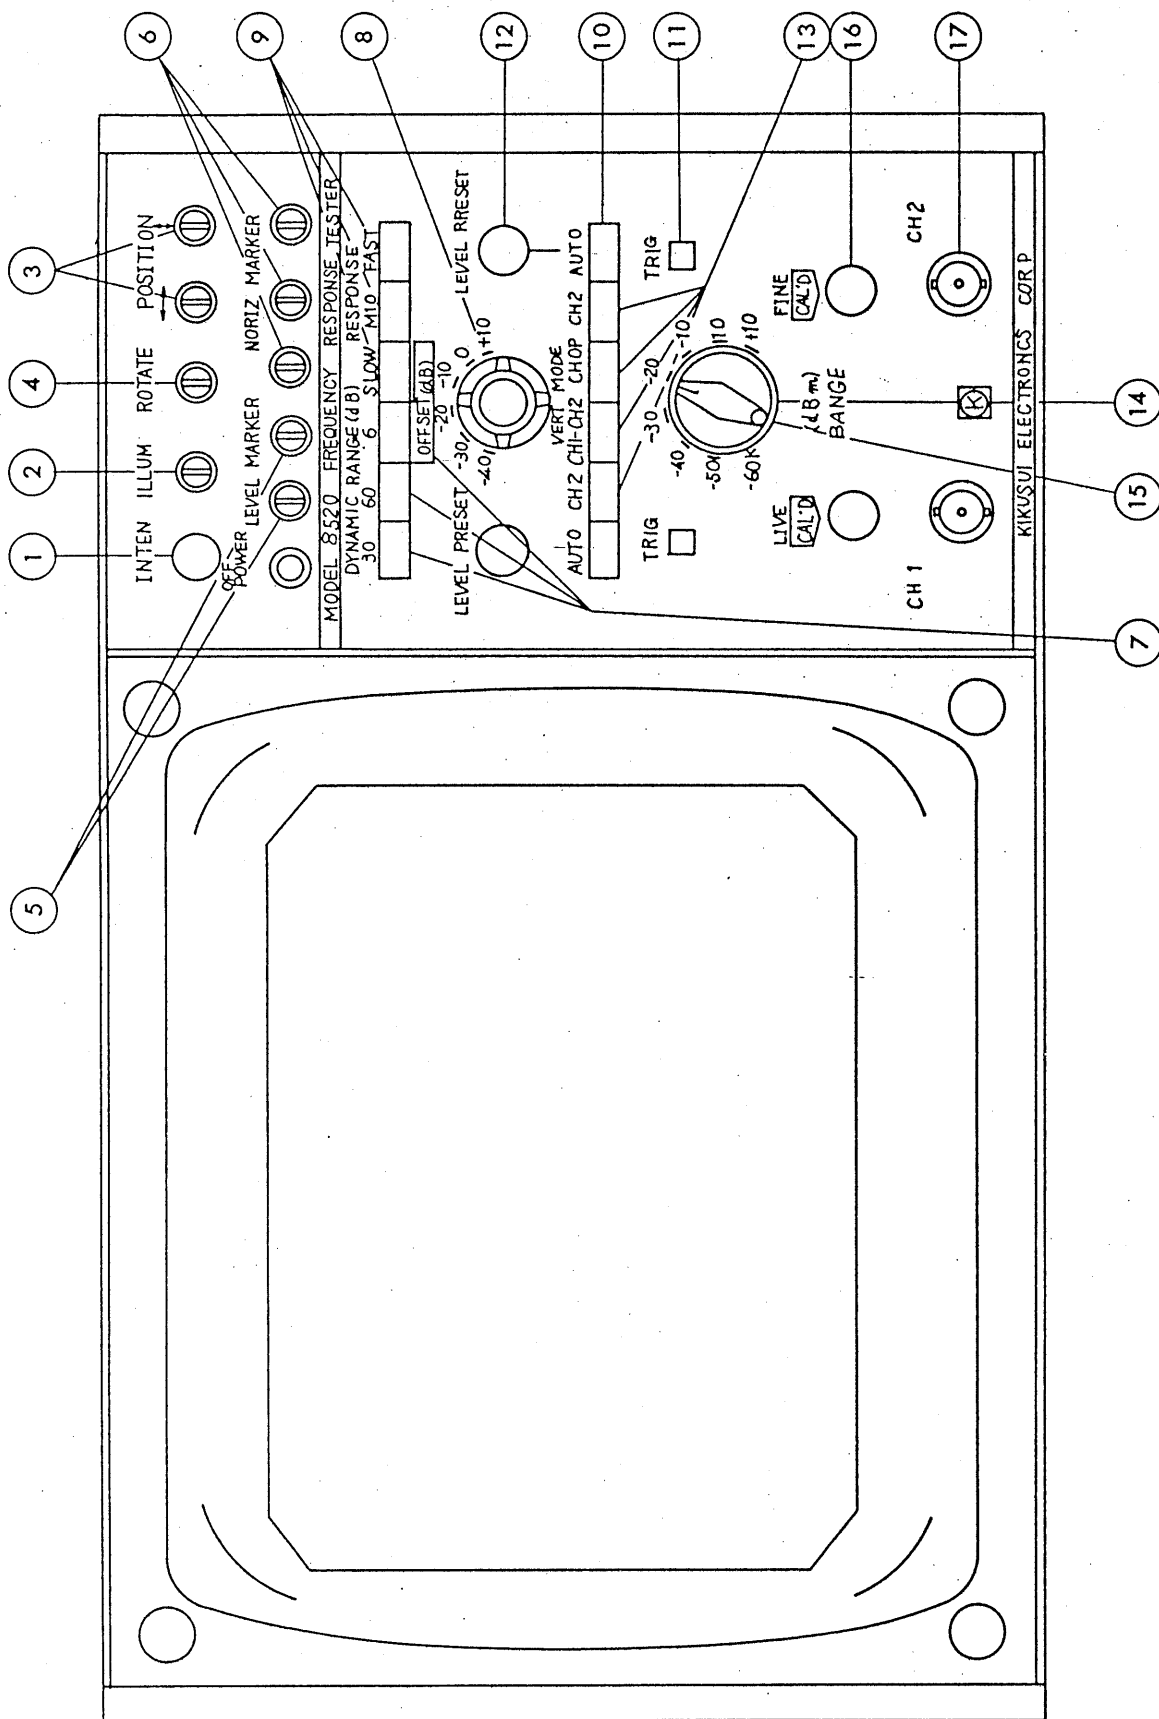

Figure 3-1. Front panel
3.1 Explanation of Front Panel (See Figure 3-1.)
- ① INTEN: Trace intensity control and power switch (the counterlockwise extreme position is for power off). As you turn this knob clockwise, the signal traces become brighter. As you turn it further, the level marker lines and horizontal markers (marker dots) are displayed.